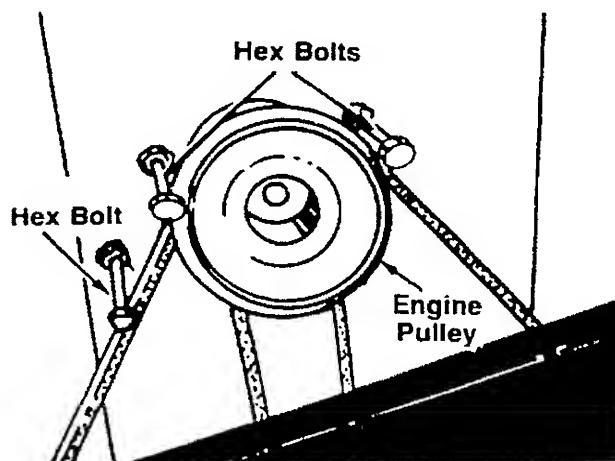

FIGURE 18.
Figures 18 and 22 through 25 are shown with the unit tipped up for clarity. It is not necessary to tip the unit to remove the belts.
2. Remove the three hex bolts (belt keepers) from the engine pulley belt guard. See figure 18.
Make certain hex bolts are reassembled as shown in figure 18.